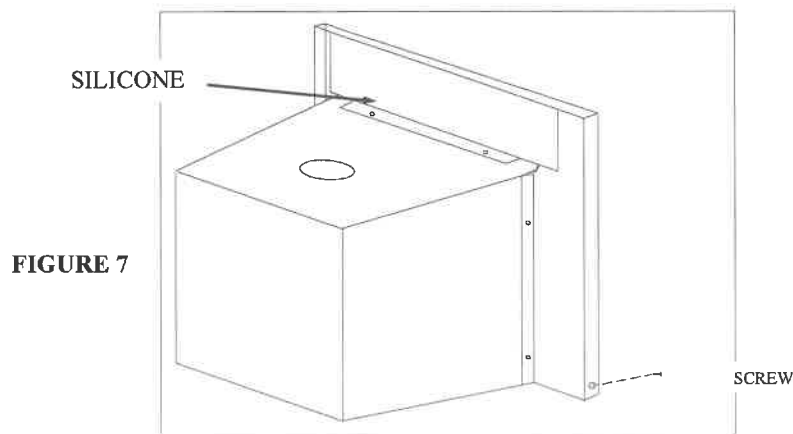

FIGURE 7
13. Next using high heat silicone or furnace cement run heavy bead of caulking around where panels meet stove. (See Figure 7).